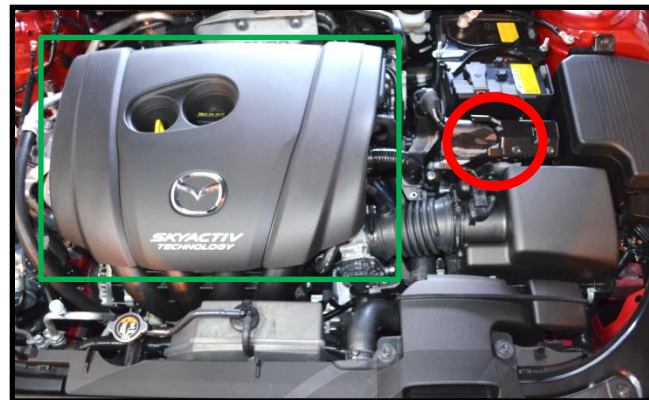
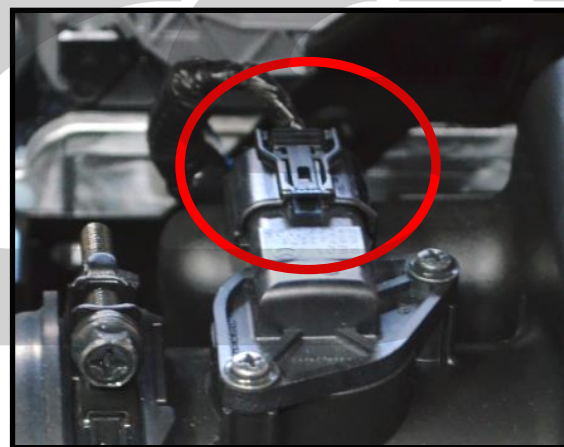

Figure 3a
Figure 3b
- a) **Remove Engine Cover** by pulling up on it. There are no screws that hold it down. This will help when loosening the intake clamp (shown in green square Figure 3a).
- b) **Unplug MAF sensor** (shown in Figure 3a with a red circle and in Figure 3b close up). Press down on the latch and the sensor will unplug.